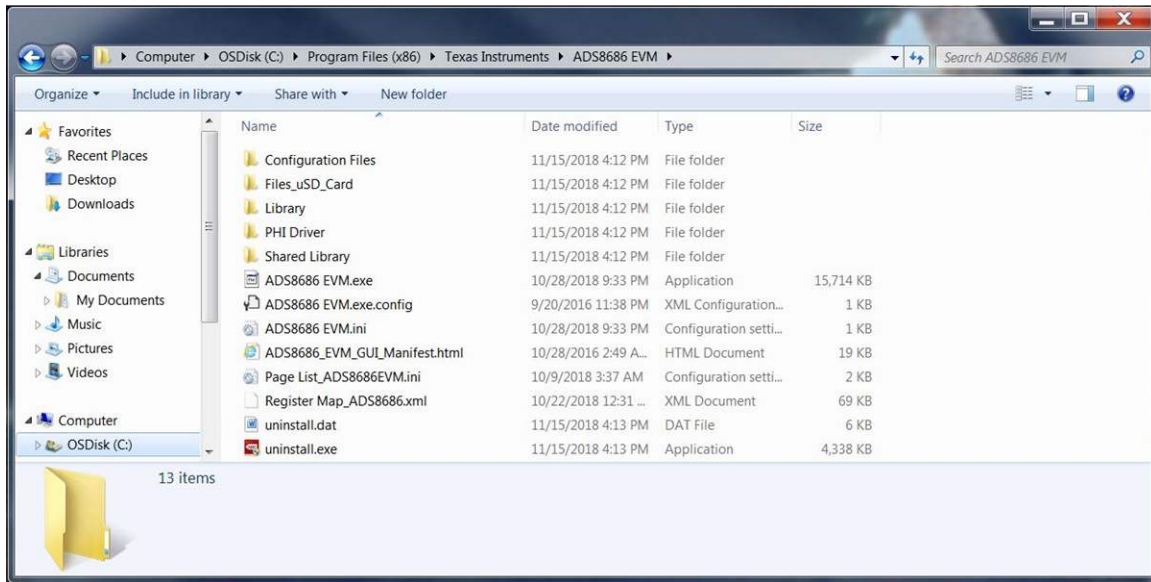

Figure 11. Launch the ADS8686SEVM GUI Software
3. As shown in Figure 11, double click the *ADS8686EVM.exe* file to launch the EVM GUI.